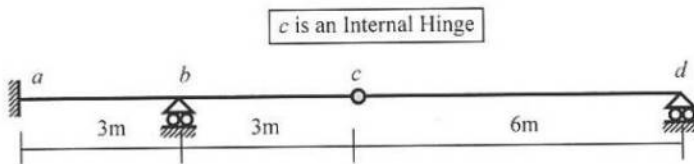

Fig. 5
7. Support a rotates 0.050 radian anticlockwise in the statically indeterminate beam $abcd$ shown in Fig. 5.